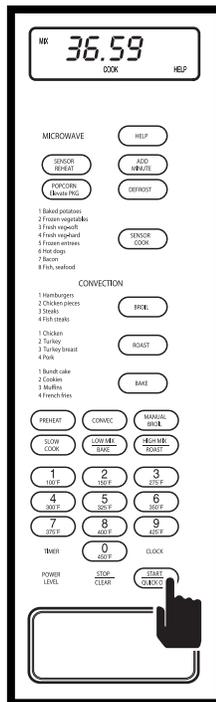

Figure 3-102.
4. Press QUICK ON/START key (See Fig 3-102).